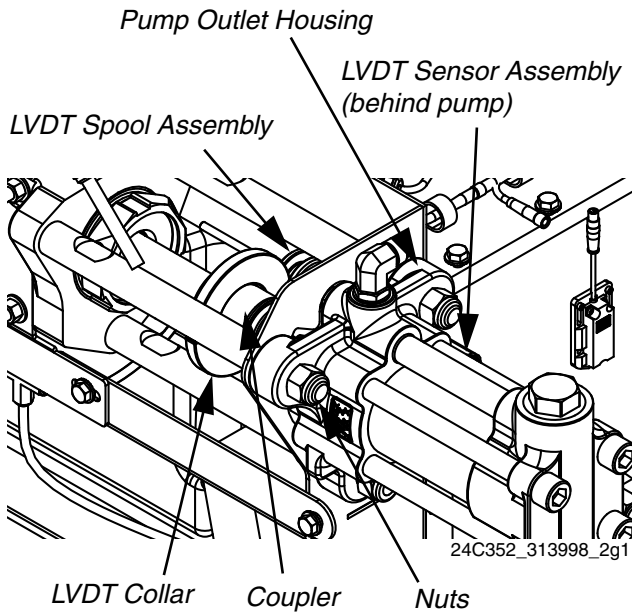

FIG. 2
8. Remove coupler from the A and B side pump shafts. See FIG. 2.
9. Unscrew LVDT sensor assembly and spool assembly from pump outlet housing. Wipe off spool assembly. See FIG. 2.
10. Remove three nuts securing pump to tie rods. See FIG. 2.
7. Remove two shoulder bolts from LVDT collar then remove collar from B side pump shaft. See FIG. 2.